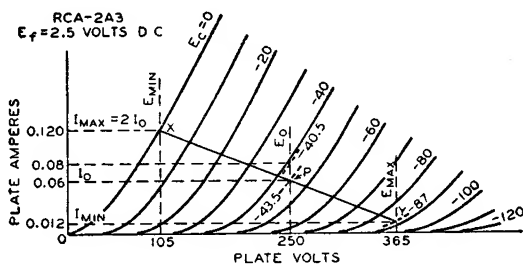

Fig. 20
Calculation of the power output of a triode used as a class A amplifier with either an output transformer or a choke having low dc resistance can be made without serious error from the plate family of curves by assuming a resistance load. The proper plate current, grid bias, optimum load resistance, and the per cent second-harmonic distortion can also be determined. The calculations are made graphically and are illustrated in Fig. 20 for given conditions. The procedure is as follows: (1) Locate the zero-signal bias point P by determining the zero-signal bias E_{c0} from the formula:
Example: Determine the load resistance, power output, and distortion of a triode having an amplification factor of 4.2, a plate-dissipation rating of 15 watts, and plate characteristics curves as shown in Fig. 20. The tube is to be operated at 250 volts on the plate.